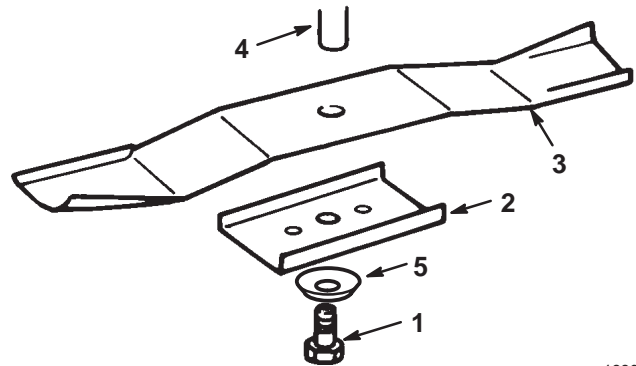

Figure 34
3. Remove the bolt (5/8 in. wrench), curved washer, retainer, and blade (Fig. 34). A block of wood may be wedged between the blade and the mower to lock the blade when you are removing the bolt.
1. Install the blade, blade retainer, curved washer (cupped side toward blade), and the blade bolt (Fig. 34).